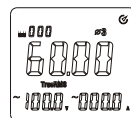

Figure 12-3
- Please press SELECT key to select the 3rd phase location of $\phi 3$ shown in Figure 12-3. It also can display frequency, voltage and current of phase location of $\phi 3$.